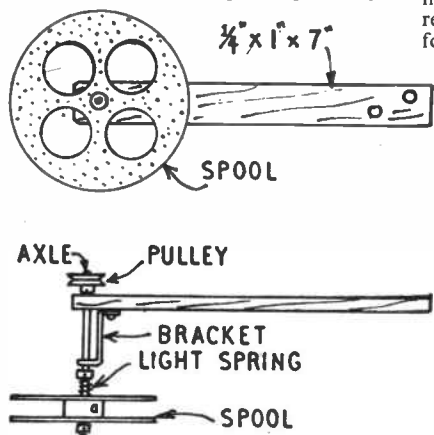

Fig. 7—Details of spool supports
of spool can be made by using  $1/8$  in. thick paxolin sheet for the discs, and the inner piece may be of wood,  $3/4$  in. in diameter and  $7/10$  in. thick, the whole being held together with small sprigs or screws, and a central hole drilled for the axle. Apertures are normally provided in the sides of the spool, similar to those seen in Fig. 7, so that it can at once be seen how much film is left.
Such a spool (or the front one, when two are used) is easily fixed to a long axle supported as in Fig. 7. The pulley
Finally, there is the method where the film is wound up automatically, and the rear spool is arranged as shown in Fig. 7, for this. The spool is loose upon the
the claw, and the sprocket (J) draws the film out, where it is taken up by the back spool, which is rotating by means of the friction drive in Fig. 7.